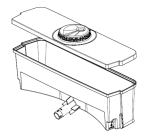

Figure 2.
D. Level your refrigerator using the following instructions: (figure 2)
2. Place the tank on a flat surface and remove the cover by pulling upwards (see figure 2).